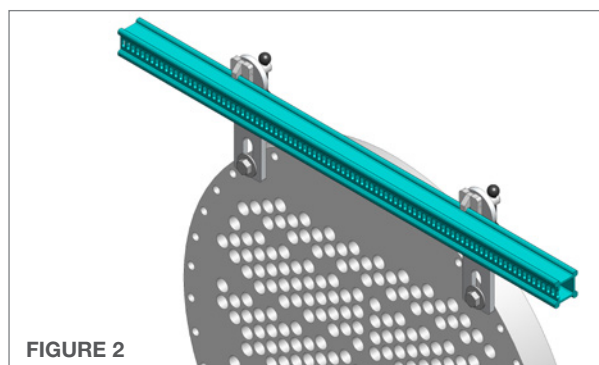

FIGURE 2
2. Insert the **Top Rail (slots facing out)** into the upper mounting brackets. If the rail is not closely aligned with the tube rows, loosen one of the upper mounting brackets and adjust until the top rail is parallel with the horizontal tube rows. Tighten the clamps securing the rail to the mounting brackets. Ensure upper mounting brackets are securely clamped or bolted to the tube bundle flange. **(Figure 2)**